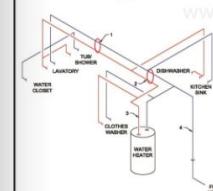

FIGURE 1
**Example 1: Indoor Water Use Only.** Use the information given below to find the pipe size for the building supply to a residential building with six indoor fixtures as shown in Figure 1 [Page Section 4].